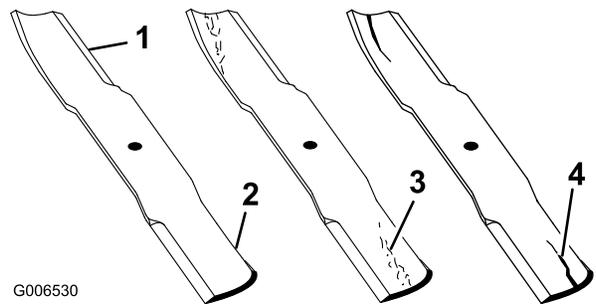

Figure 53
1. Inspect the cutting edges (Figure 53). If the edges are not sharp or have nicks, remove and sharpen the blades. Refer to Sharpening the Blades.
2. Inspect the blades, especially the curved area (Figure 53). If you notice any damage, wear, or a slot forming in this area (item 3. in Figure 53), immediately install a new blade.